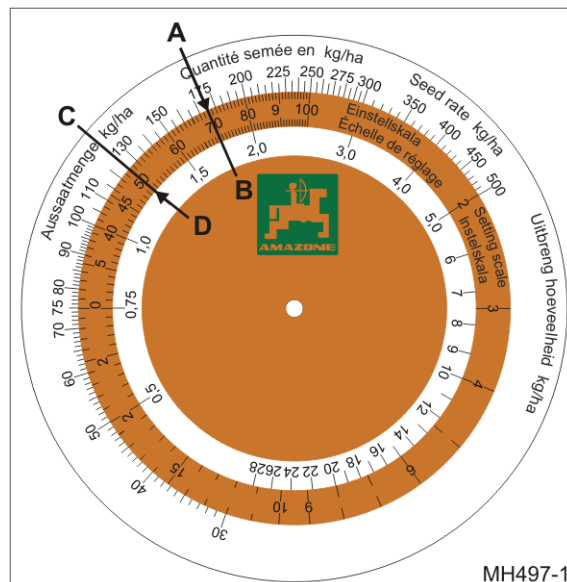

Fig. 133
- o computed sowing rate 175 kg/ha (Fig. 133/A)
- o gearbox setting 70 (Fig. 133/B)
2. Read the gearbox setting for the desired sowing rate of 125 kg/ha (Fig. 133/C) from the calculating disc rule.
- Gearbox setting 50 (Fig. 133/D).